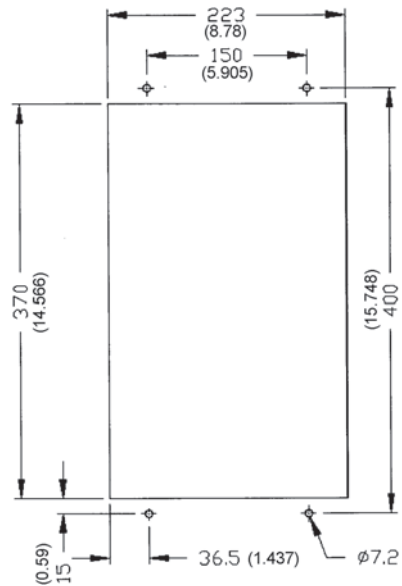

Figure 8.28 - Cutout dimensions in air duct - Dimensiones mm (inch)
The DBW-01 and DBW-02 can also be installed with a through surface mounting kit as described in item 8.11. In this case, use the available installation kit, which contains the respective installation supports. Figure 8.28 shows the mounting cutouts.